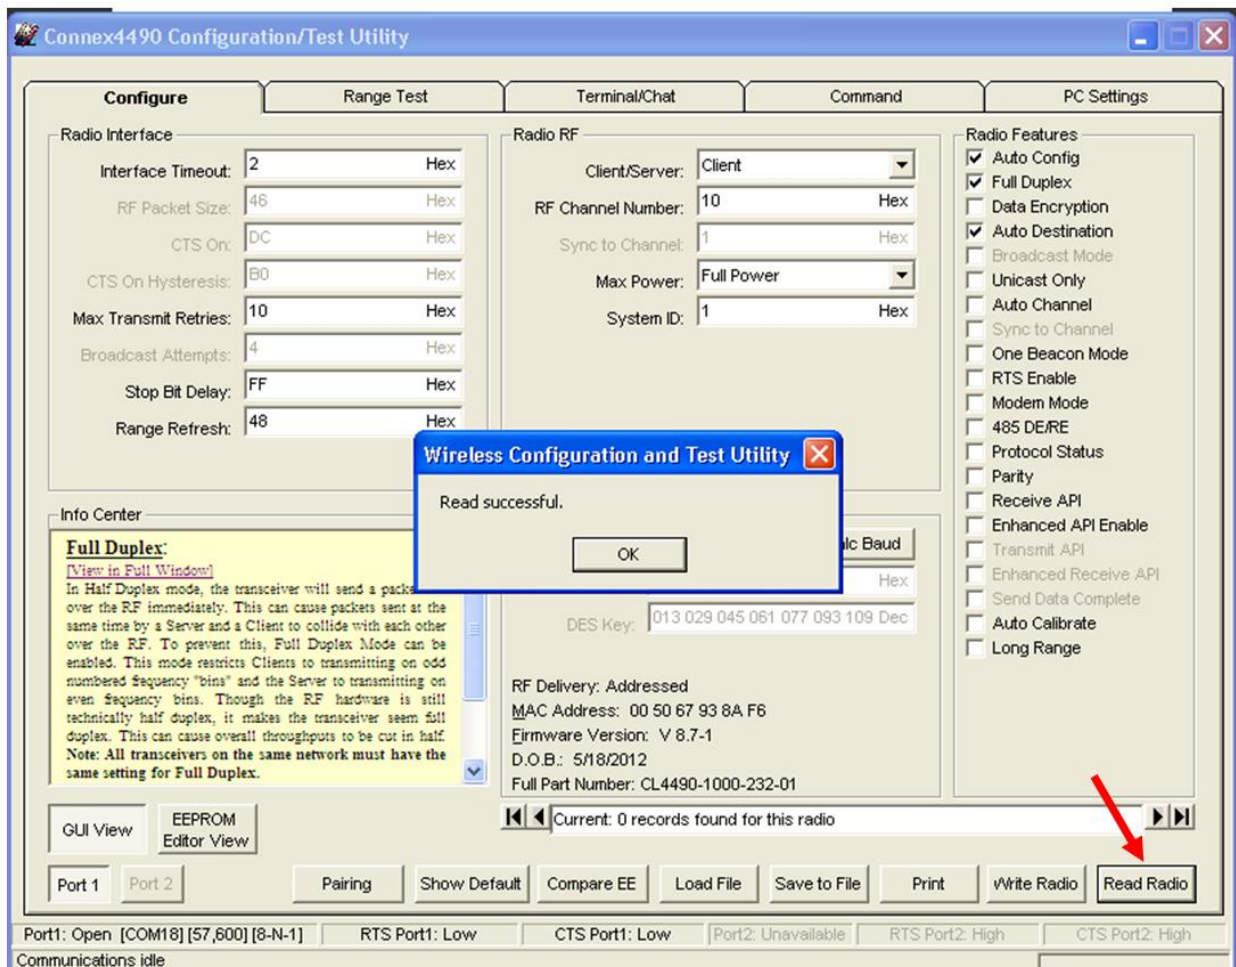

Figure 10: Configure tab - Read Successful
7. Go to the Configure tab and click the **Read Radio** button at the bottom right of the screen. A message stating "Read Successful" should appear after a successful read (Figure 10).